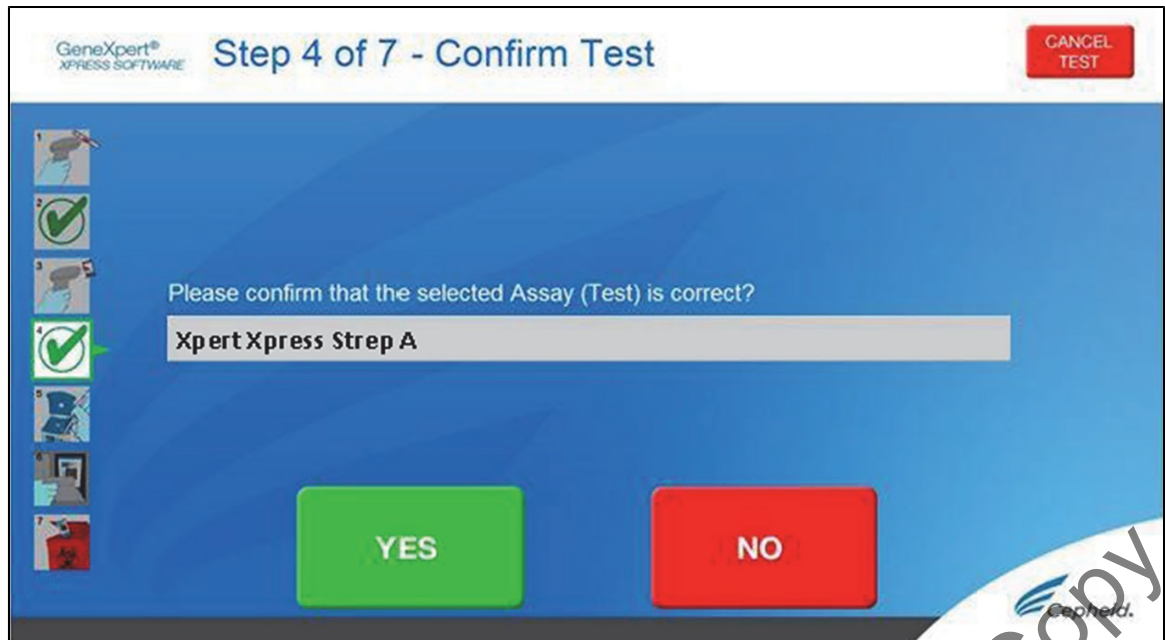

Figure 5. Confirm Screen Test
3. Confirm that the name on the cartridge is Xpert Xpress Strep A (shown in Figure 5) and touch **YES** if the displayed information is correct. If applicable, enter your user name and password.